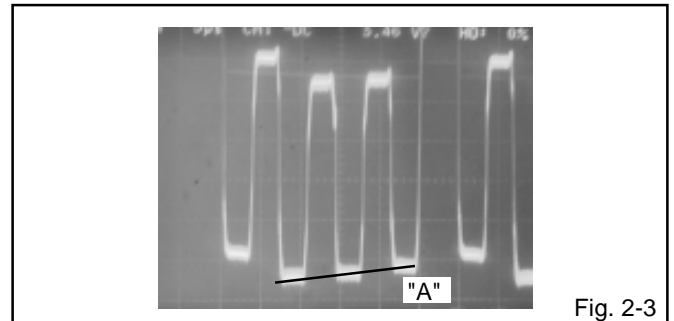

Fig. 2-3
4. Press the VOL. UP/DOWN button on the remote control until the section "A" becomes as straight line. **(Refer to Fig. 2-3)**